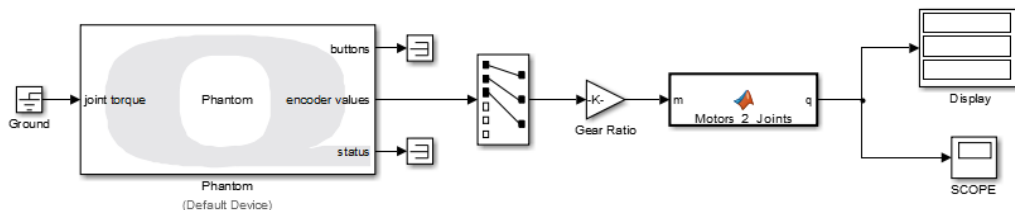

Figure 4: Initial Simulink diagram for the lab.
- You should see the Simulink diagram shown in Figure 4.